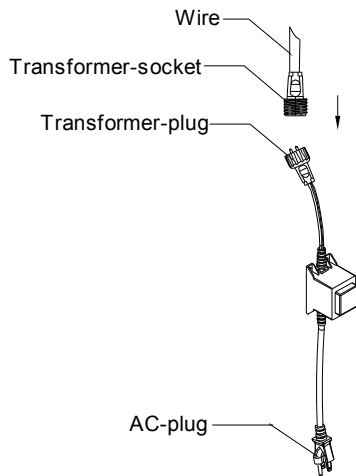

Fig. 1
- Install Transformer-Plug into Transformer-Socket and tighten securely. (See Fig. 1)